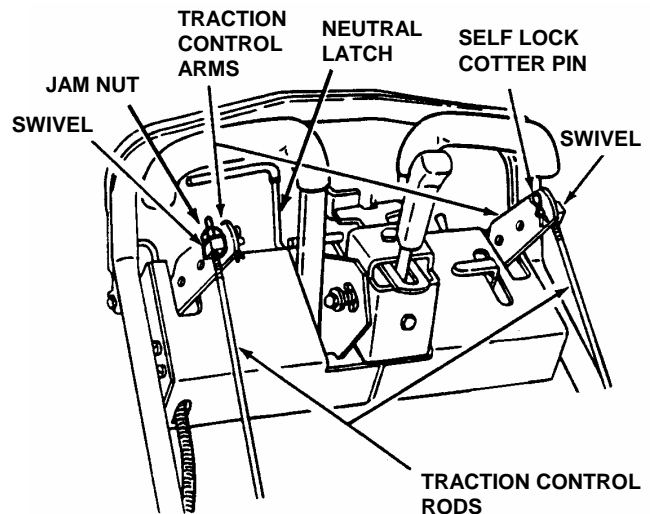

FIGURE 3.7
**STEP 2:** Place both Traction Levers in the Neutral position and engage Neutral Latch. See Figure 3.7.
**STEP 4:** Disconnect the swivel from the right and left traction control arms and loosen swivel jam nuts. See Figure 3.7.